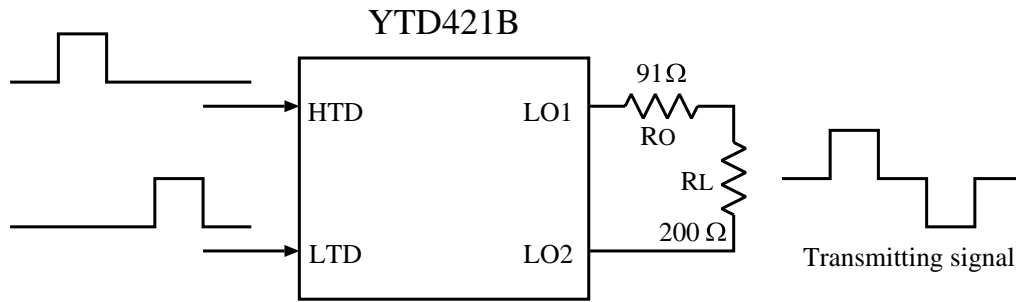

Figure 5.3: Driver Testing Circuit
**Note 1:** Measured under the condition shown in Figure 5.3.